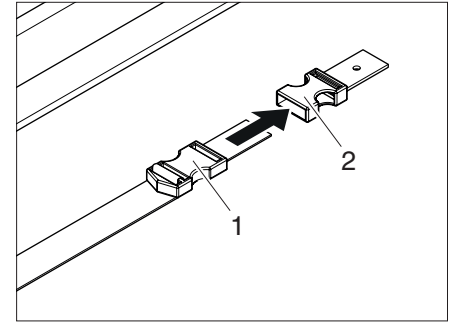

Fig. 102 Fasten the retaining straps
- Fasten the retaining straps on the snap fit bugle (Fig. 102).
- ▶ Secure the safety net to the snap fit buggie buckle (Fig. 102,2) to prevent it from accidentally hanging down near the stove.
The safety net is stored as standard under the mattress and secured against falling down (Fig. 102). Only use the safety net if persons are already in the bed.
- ▶ Fasten the retaining straps (Fig. 102,1) on the snap fit buggie (Fig. 102,2).